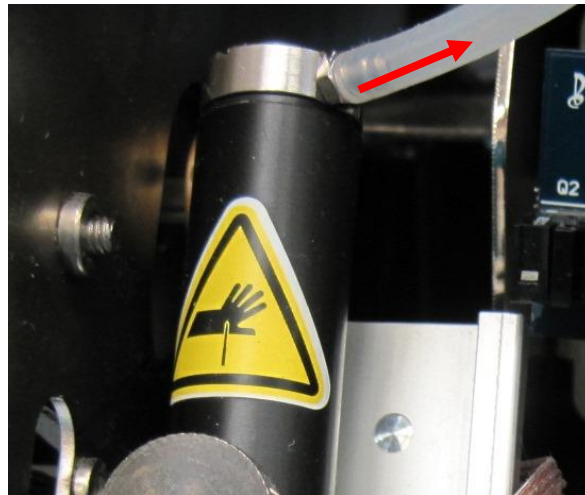

Figure 2
2. Remove the Wash Pump Tubing from the top of the Probe Tube. (Figure 2)